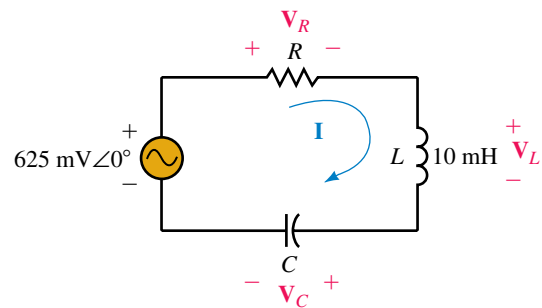

FIGURE 21-48
3. Consider the circuit of Figure 21-48: